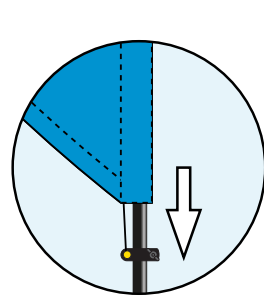

Fig 12.
11. Insert the yellow button on the end of the rope into the cleat on the pole, slide down the pole to tension the flag and tighten the wingnut. (Fig 12)